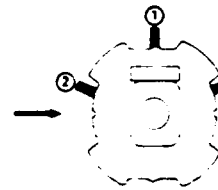

Figure 3b
5. When the correct position is located, place wedges 2 and 3 as shown in Figure 3b or 4b.